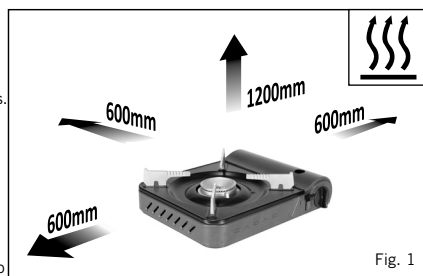

Fig. 1
- Ensure the appliance is used away from flammable materials. Minimum safe distances are: above the appliance 1.2m. At the rear and sides 600mm (See Fig.1).